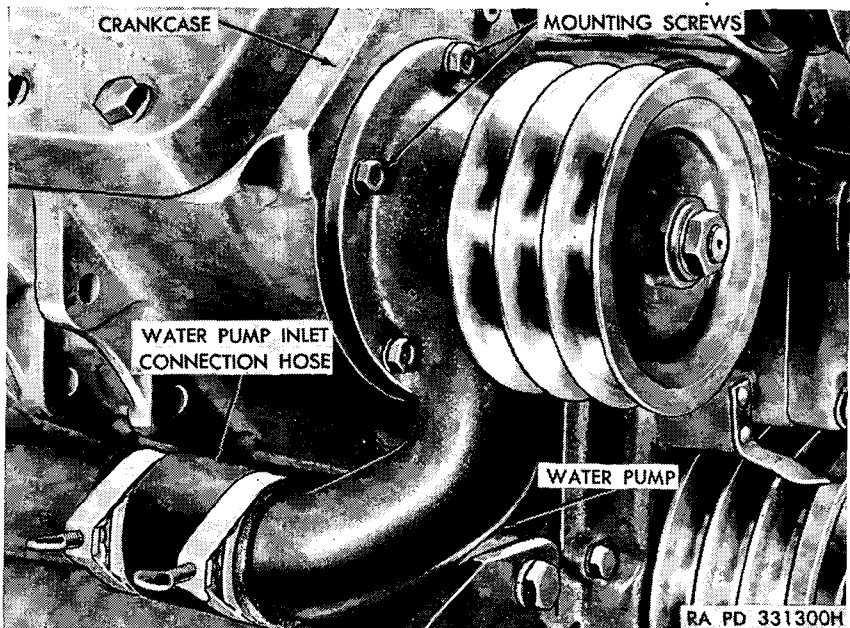

Figure 85. Water pump installed.
a. REMOVAL. Drain cooling system (par. 118). Install drain plug. Open engine compartment door and fasten to turret. Remove six cap screws that hold engine compartment rear air outlet to mounting angles and remove outlet. Loosen locking nut holding generator cradle in position and lower generator to lowest position. Slip belts off water pump pulley *by hand*. Loosen hose clamp that holds inlet connection hose on pump body inlet. Remove five screws and washers that hold water pump body to cylinder block (fig. 85). Remove pump and discard gasket.
b. INSTALLATION. Place new gasket on water pump and position pump on cylinder block with pulley under generator and water pump belts. Install five pump mounting screws and lock washers and draw up evenly (fig. 85). Connect inlet connection hose and tighten hose clamps. Install belts on water pump pulley, prying in place *by hand only*. Using large screwdriver or small utility bar between generator and generator cradle, pry up on generator and adjust belts until there is from five-eighths to three-quarters of an inch deflection in belts, measured midway between generator and water pump pulleys (fig. 37). Hold generator in this position and tighten generator cradle locking nut. Lift or hoist engine compartment rear air outlet into position on mounting angles and install the six screws. Close engine compartment door. Fill cooling system (par. 118).